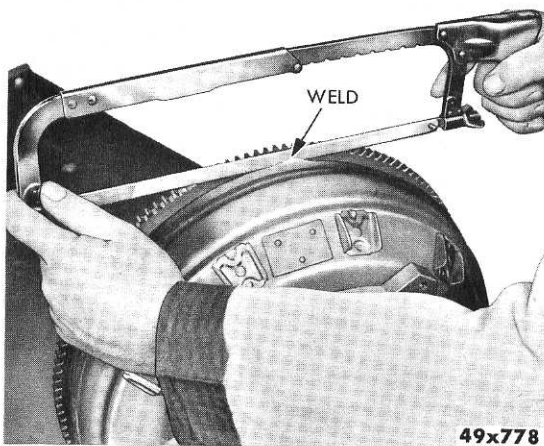

Fig. 21—Cutting Ring Gear to Housing Weld Spots
- (1) Remove the fluid drive unit from the truck and clamp it in a swivel vise so that the weight rests on the bench.
- (2) Using a hacksaw, cut the weld spots parallel to the back face of the ring gear within $\frac{1}{16}$ to $\frac{3}{32}$ inch of the housing, as shown in Figure 21. *Do not cut too deep.*